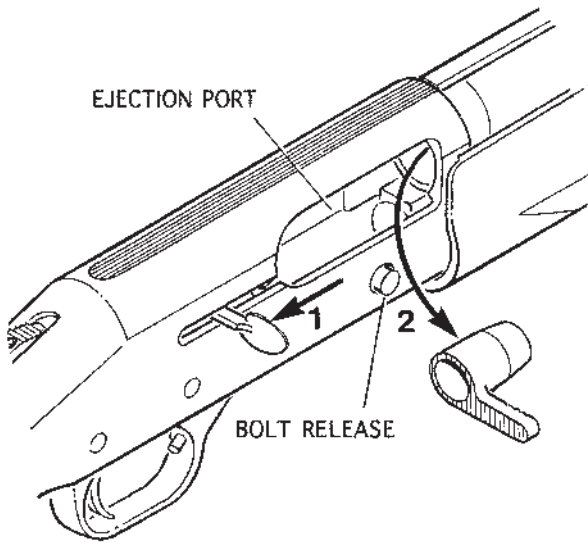

Figure 4
1. With the safety button fully rearward in the “ON” position, and the muzzle pointed in a safe direction, hold the firearm in your left hand by the forearm, and grasp the operating handle with your right hand. (Figure 4).
Keep fingers clear of the operating handle and the ejection port when closing the action. (Figure 4)
With the safety button fully rearward in the “ON” (SAFE) position, and the muzzle pointed in a safe direction, press the bolt release until the action releases (Figure 4).
Open the action by pulling the operating handle completely rearward until it locks in the open position. (See “**TO LOCK ACTION OPEN,**” Figure 4)
Keep fingers clear of the operating handle and the ejection port when closing the action (Figure 4).
3. While holding the elevator down with your thumb, press the bolt release (Figure 4). This will release one round from the magazine tube under spring pressure.